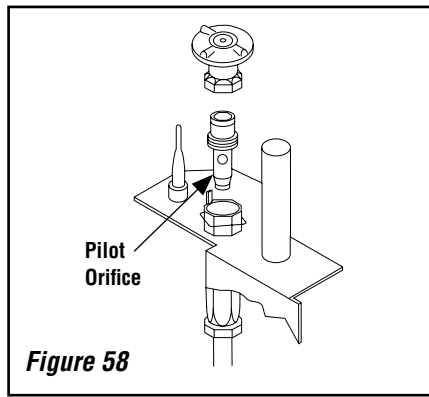

Figure 58
Step 6. See **Figure 58** and remove the pilot hood assembly to access the hexed pilot orifice. Remove and replace the orifice with the one provided with the kit.